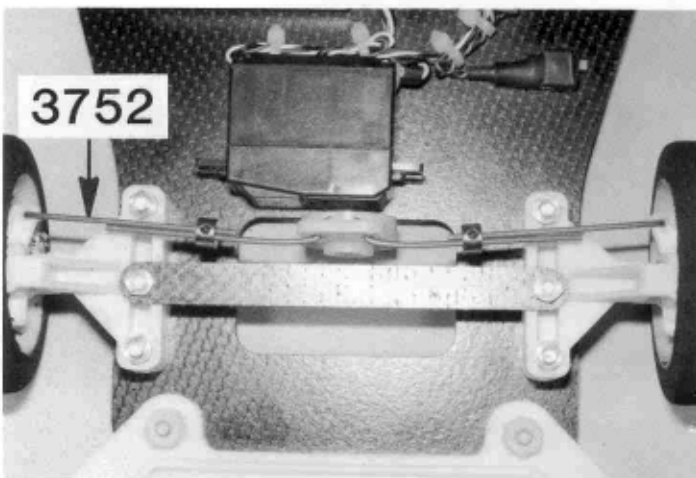

Fig. 70
□ **Figs. 70 & 71**— As you can see in Fig. 70, install the servo so the servo saver is in the center of the car (from left to right), and so the servo saver's rear edge is .100" forward of the chassis cutout. Put it there, make sure everything's okay, and then take the roll of double-sided sticky tape and attach the servo to the chassis with the tape.
TOE-IN—Normally, we do not use toe-in or toe-out. But if you run on a very slippery track, you might want to try some toe-in. This is done by adjusting the #4126 tie rods (Fig. 70) so they're a little longer.